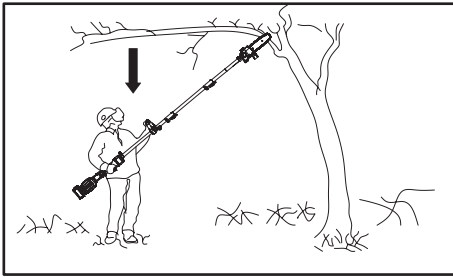

Fig. 47
6. Never stand directly under the limb you are sawing. Objects may fall differently than expected. Always position yourself out of the path of falling limbs (Fig. 47).